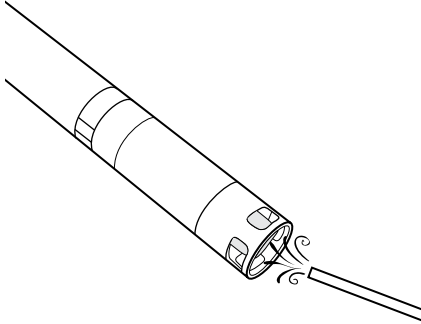

Figure 73 Ammonium and nitrate maintenance
1. Carefully clean the ammonium or nitrate sensor by using a fine jet of DI water or rinsing in alcohol followed by soaking in the high standard calibration solution (Figure 73).